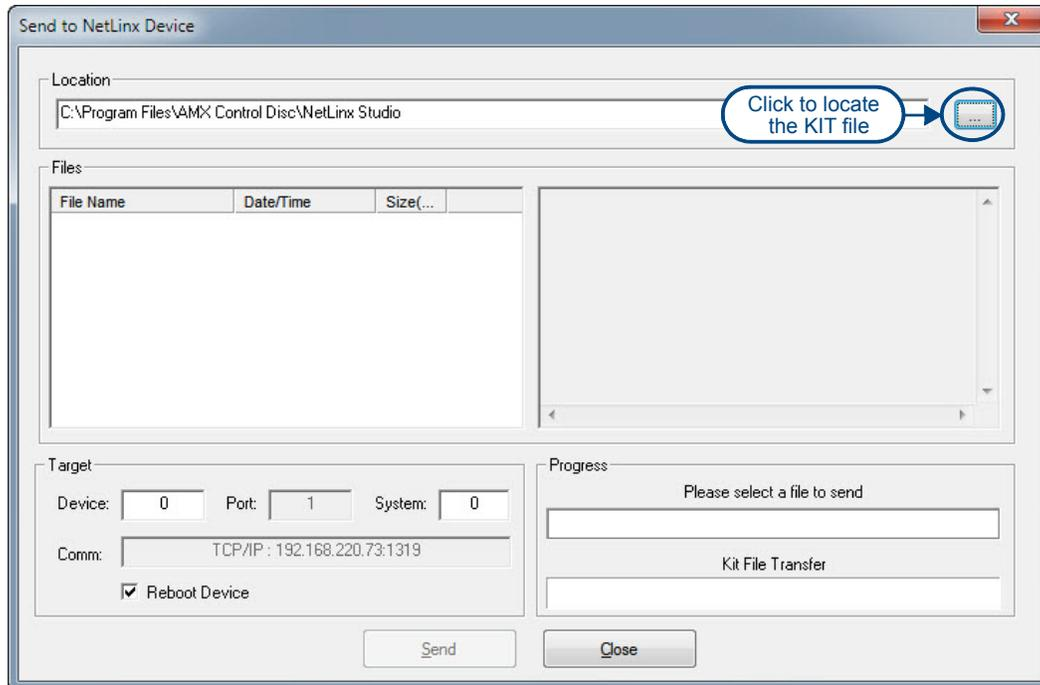

FIG. 102 Send to NetLinx Device dialog box (NetLinx Studio)
1. Choose Tools > Firmware Transfers > Send to NetLinx Device to open the Send To NetLinx Device dialog box (FIG. 102).